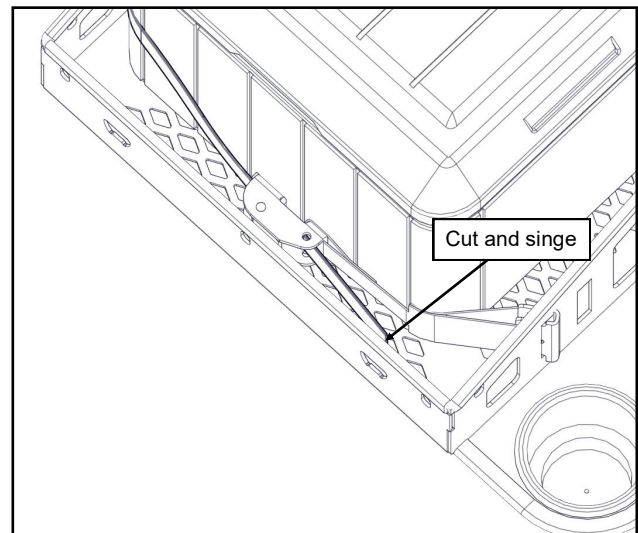

Fig. 6 (cut adjustable length hold-down strap end)
6. Once the strap is cut to length, use a heat gun or lighter to singe the cut end of the strap to make sure that the strap does not fray. See fig. 6.